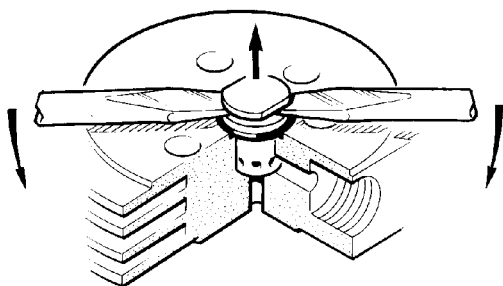

Fig. 39 Removal of 3rd stage pressure valve
- Remove two captive nuts (1) and spring-washers (2).
- Remove plate (3).
- Remove valves (4) and (7) using two screw-drivers as shown in Fig. 39.
- Assemble in reverse sequence. Position spring-washers with curved side facing upwards. Fasten nuts so that plate (3) is parallel to the valve head. Torque with 10 Nm (1 kpm).
- Unwind torque stud (1) a couple of turns.
- Remove allen screws (7), take off valve head cover (6).
- Put two screwdrivers into the groove of pressure valve body (Fig. 39). If necessary turn valve loose at first using a 13 mm spanner on the flat surfaces.
- Lift out pressure valve (3) together with O-ring (2).